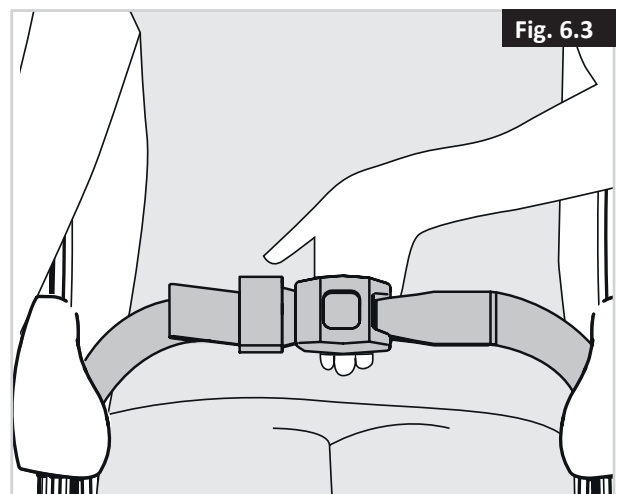

Fig. 6.3
- Adjust the lap strap to suit, leaving no more than a hand's width gap for comfort and safety (Fig. 6.3).